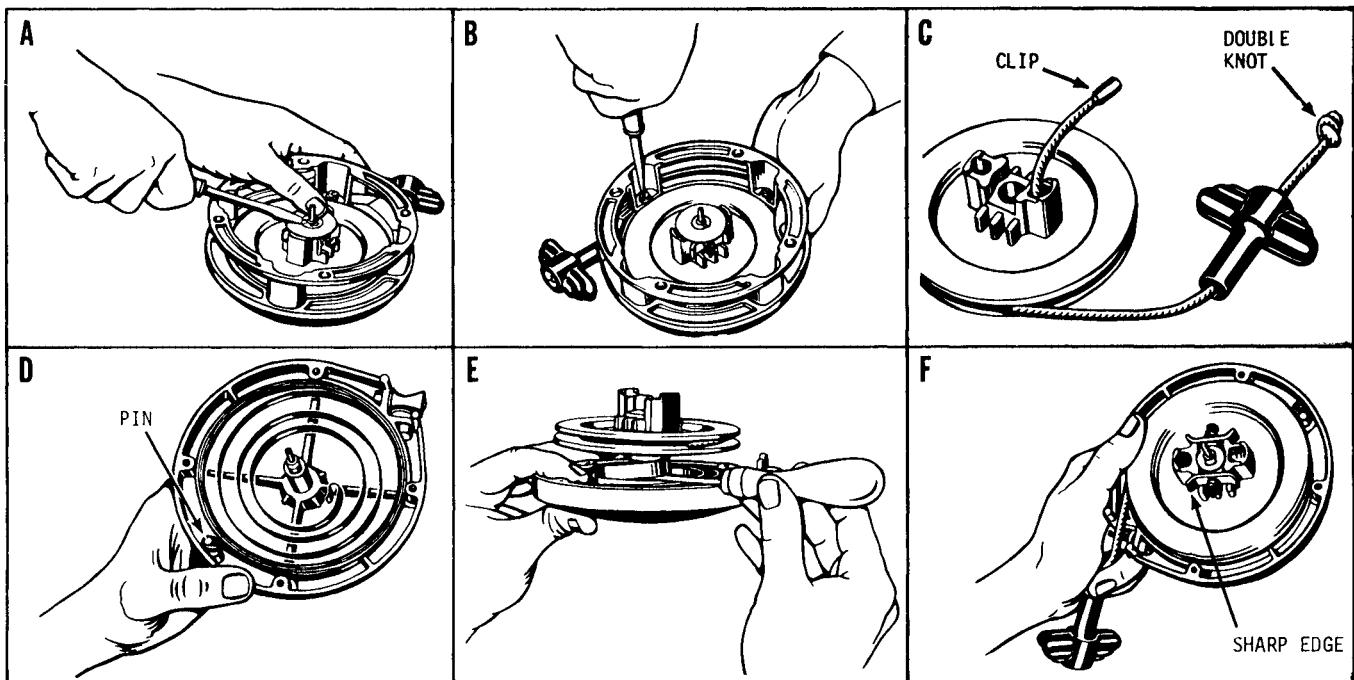

Figure 7-2 Air-Links-Morse Starter Disassembly.
1. To remove starter from engine, remove four mounting bolts. Refer to Figure 7-2.
2. Starter rope is now completely wound on rotor in the direction shown in Figure 7-2.